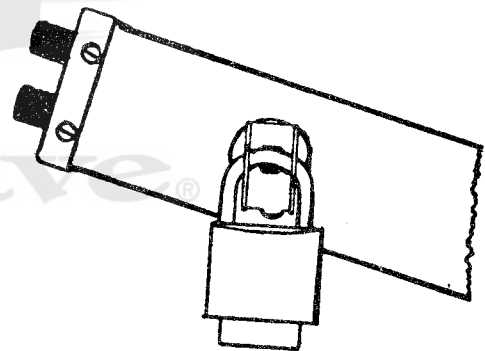

Figure 2-4. Lock Placement
4. Attach a padlock through holes in sides of mounting lock, as shown in Figure 2-4; then latch padlock to prevent removal of unit from mounting bracket.